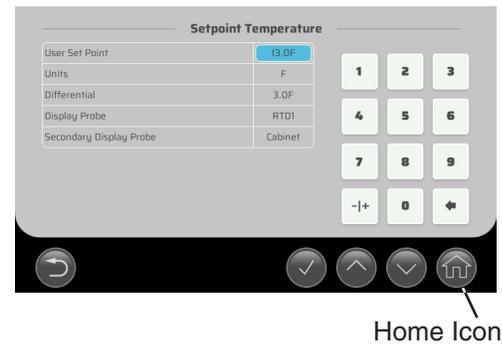
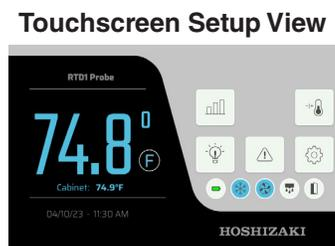

Fig. 17
Fig. 18
- 6) Press the home icon to return to the touchscreen setup view. See Fig. 17. The touchscreen setup view returns to touchscreen normal view after 1 min. See Fig. 18. Note: If an alarm is present (alarm icon lit) touchscreen remains in setup view until alarm is cleared.